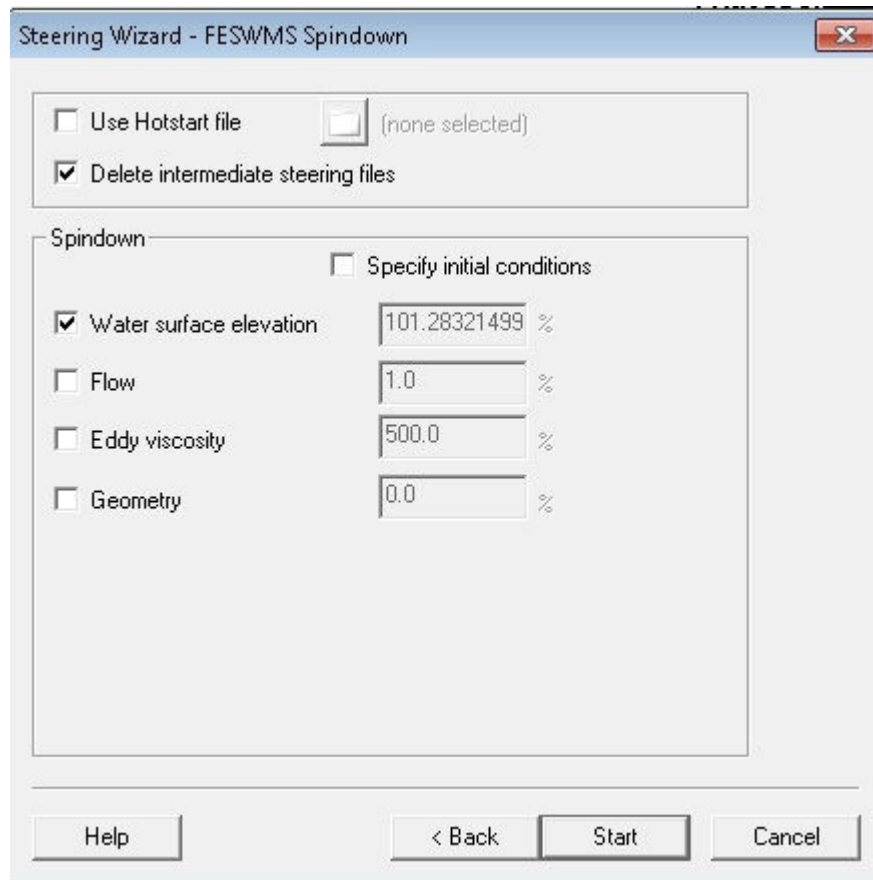

Figure 7. *Steering Module* dialog.
4. In the *Steering Module* dialog select *Water Surface Elevation* for the *FST2DH Spindown* method as shown in Figure 7.